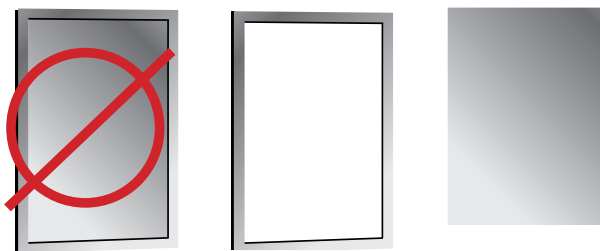

Figure 7: Galvanized thick frames separate from thin sheet/plate
- Surrounding thinner material with thick framing (*Figure 7*)